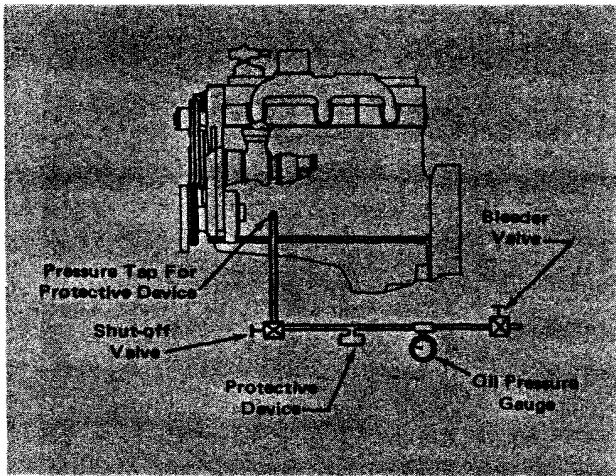

Fig. 2-57, (N11701). Checking low oil pressure protective device
1. With engine shut down, remove protective device from engine block and reconnect. Fig. 2-57.